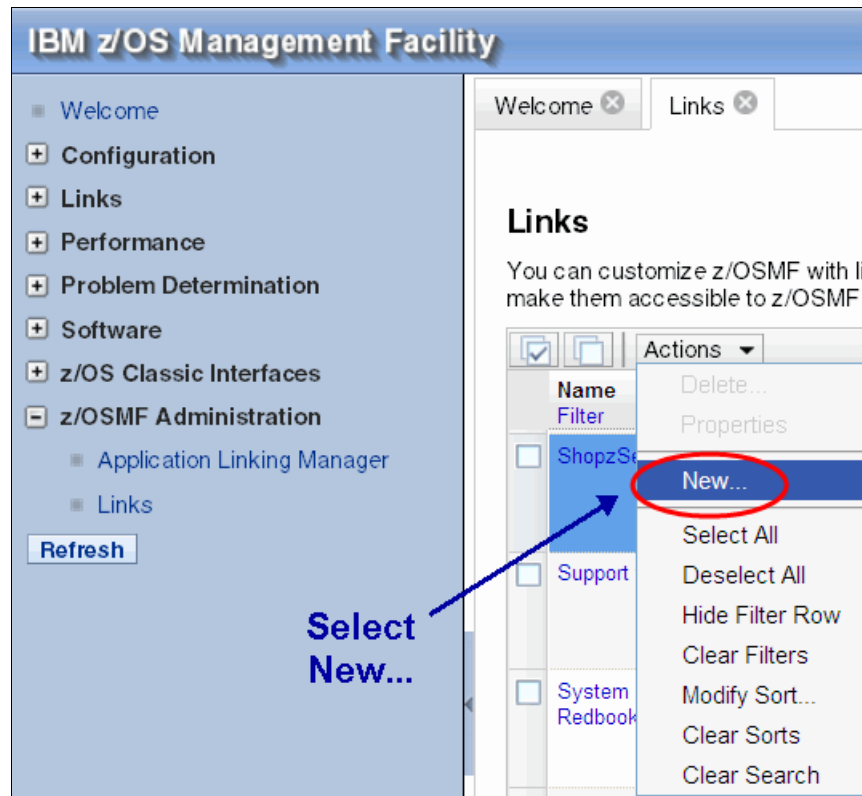

Figure 6-2 Select New from z/OSMF Links
2. When **Links** opens, the list of existing links appears. Click **Actions** → **New** as shown in Figure 6-2 on page 194.